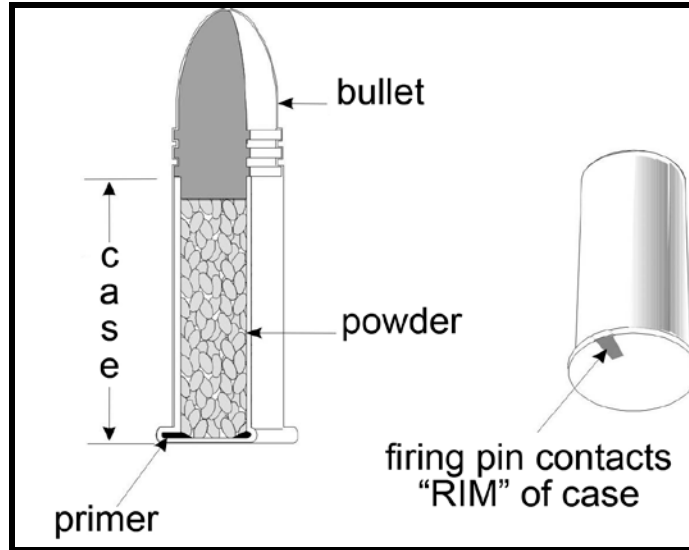

Figure 21. Rim-fire cartridge
- a. **Rim-fire** ammunition's priming chemical fills the space inside the bottom rim of a thin brass or copper cartridge casing. The soft rim dents when struck by the firing pin. This crushes the priming compound. It explodes, and this ignites the powder (Figure 21).